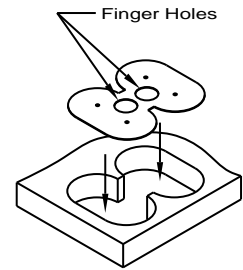

Figure 4
4. Using the finger holes, slide the template through the hole. Be sure to keep the template horizontal. If there is any interference, remove before installing the grommet (Figure 4).